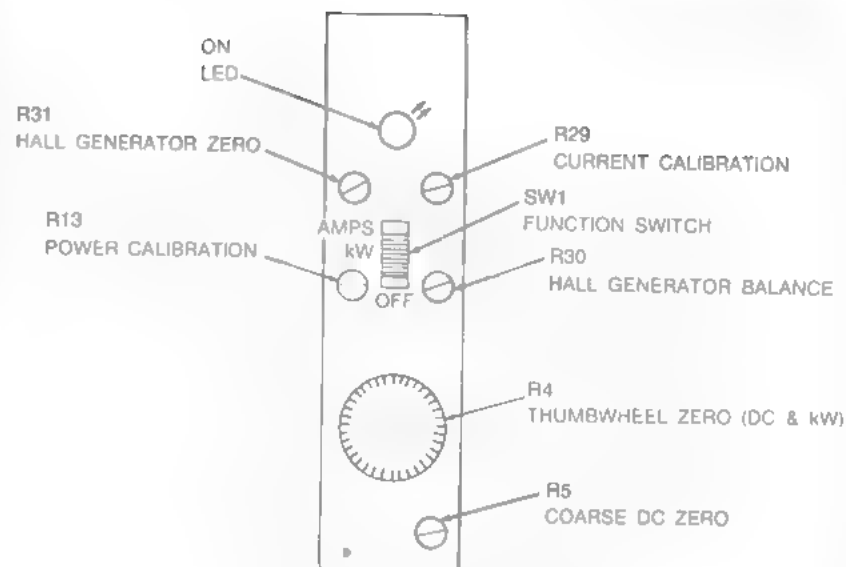

Figure 4-2. Location of Adjustments
Complete calibration of the 80i-kW is done by adjusting the five potentiometers shown in Figure 4-2. The adjustments are made through openings in the case, which are exposed by removing the main decal.
- Remove the main decal to gain access to the calibration adjustments (See Figure 4-2.)